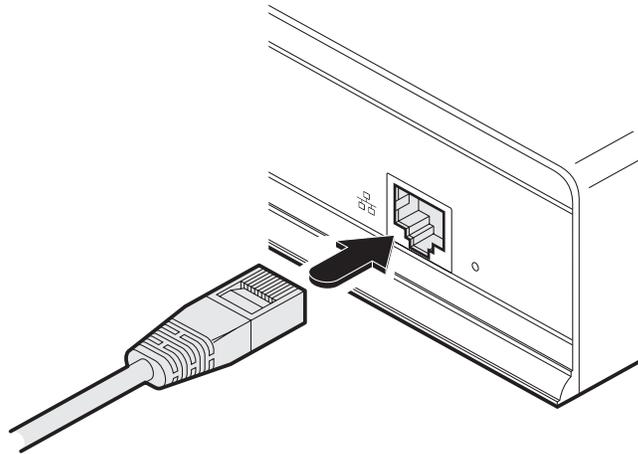

Figure 3-9. CAT 5, 5e, 6, or 7 link either directly from the other ServSwitch Agility unit or from a Gigabit Ethernet switch.
- 1 Connect a CAT 5, 5e, 6, or 7 cable to the socket on the front panel of the ServSwitch Agility unit. See Figure 3-9.